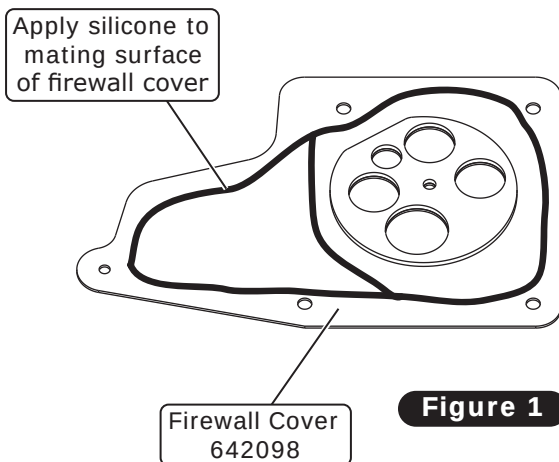

Figure 1
1. Apply silicone to the mating surface of the firewall cover (See Figure 1, below).